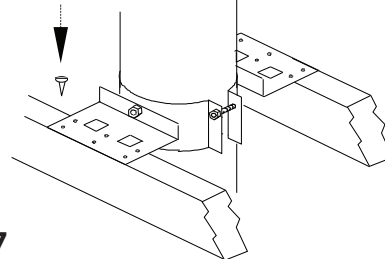

Figure 17
- Step 1. Install the roof radiation shields in the roof joists. These shields consist of four metal plates. Nail one plate to each side of the joist using (2) 2-1/2" nails.
- Step 3. Slip the support down over the stainless steel chimney until its brackets rest on the roof or floor. Tighten the collar around the chimney, (see Figure 17).
- Step 4. Center the chimney and nail or screw the support to the roof or floor using (8) - 2-1/2" nails or (8) N°. 8 - 1-1/4" wood screws. (Figure 17).